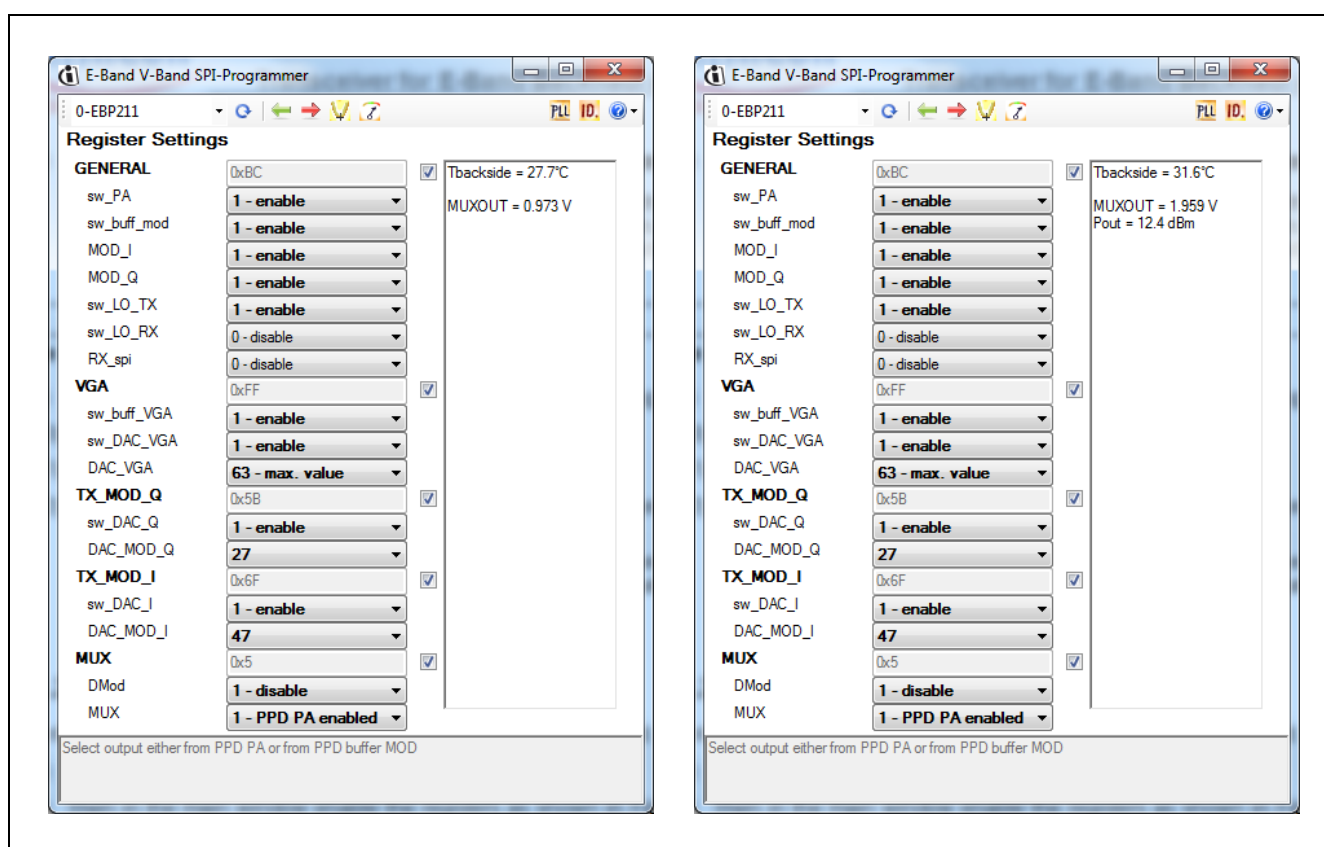

Figure 24 Typical Transmitter Settings for the BGT70
- 8) Before you proceed to this step make sure that there is **no IF signal applied to the TX IF inputs**. Then in the main window press  button. This step will automatically execute the LO leakage calibration and set the right value to the **DAC_MOD_Q** and **DAC_MOD_I** registers. The current consumption in this case will jump to 550mA. The typical setting for the Transmitter would look like as shown in **Figure 24**. After LO calibration is done, IF can be applied to TX IF inputs of BGT70.